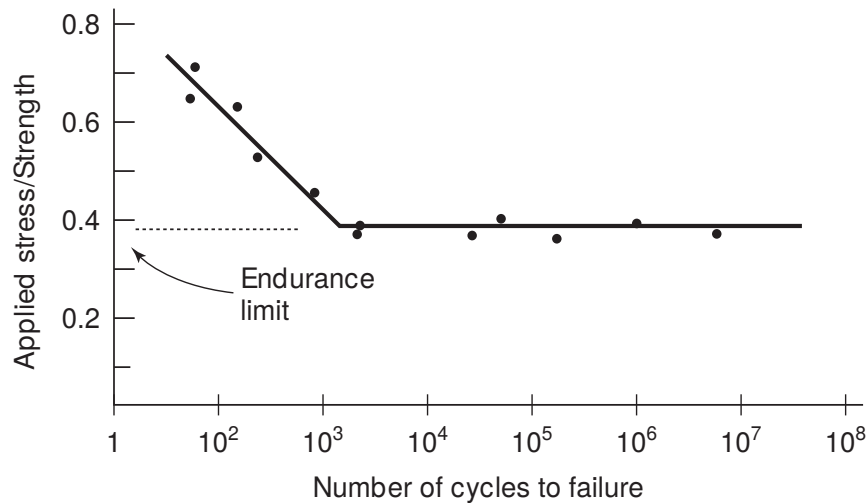

Figure 2: Endurance limit
- Endurance limit - Maximum cyclic load which can be applied to a material infinite time without causing failure. Typical graph of number of load cycles versus  $\sigma_a/\sigma_y$  is given in Figure 2.